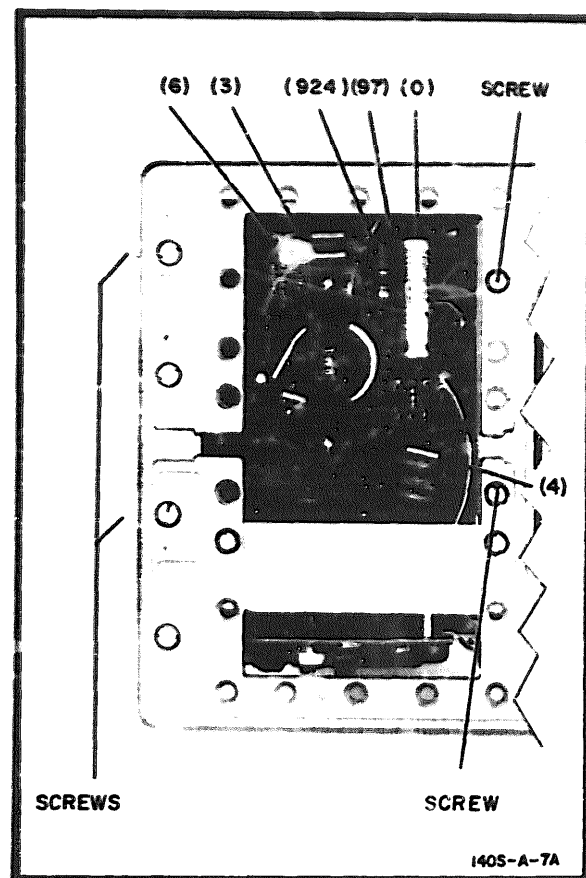

Figure 1-21. High Voltage Deck Removal
- (1) Remove the top and bottom covers of the Model 141A.
- (2) Disconnect the white-gray and white-green-gray wires from the fan terminals.
- (3) Remove all transistor heat sinks from the fan assembly and push them out of the way.
- (4) Remove the four fan mounting nuts on the rear panel of the instrument.
- (5) Lift out the fan assembly.
c. **HV Deck Removal and Replacement.** Most of the components on the high voltage deck can be replaced without removing the assembly. Other components can be removed and replaced by moving the deck part way out (without disconnecting wires). Refer to Fig. 1-21 for mounting screws and wire identification; use the following procedure for removing the high voltage deck.
- (1) Remove the left side and top covers.
(2) Disconnect the 6 wires from the board and remove the 4 mounting screws; see Fig. 1-21 for wire and screw identification.
(3) Disconnect the post-accelerator lead from the CRT and short the CRT pin and lead to the chassis.
(4) Push the wires aside, tilt the deck away from the left side of the instrument and lift it out.